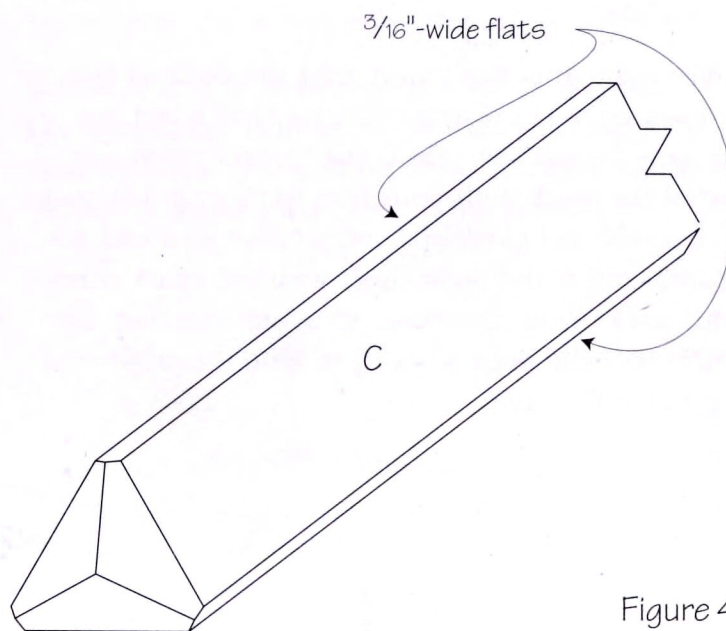

Figure 4
8. Finally, plane each corner of every post until you produce a $\frac{3}{16}$ "-wide flat instead of the sharp corner (see figure 4).